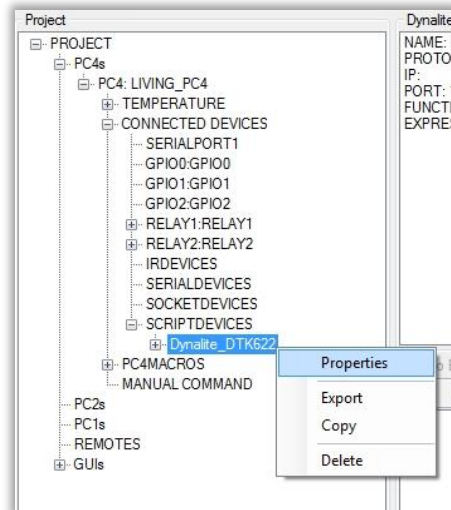

Figure 8 - Configuring device parameters: right click the device and select properties
- Right click on the newly added script device, and select “Properties”. *Refer to Figure 8*